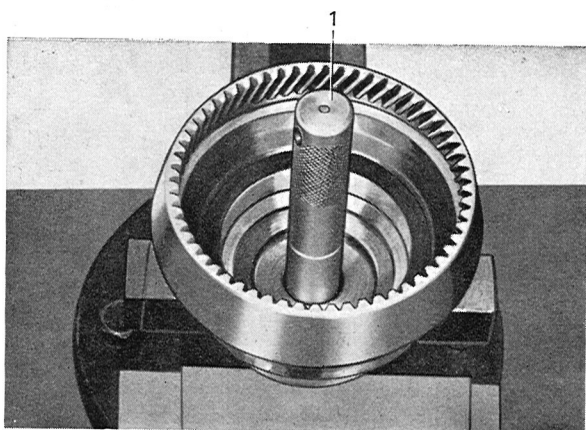

Fig. 4-58. Output shaft bushing installation
1. Push the bushing on the output shaft with drift 2417, see Fig. 4-58. Press the front bearing to the output shaft with drift 2412.